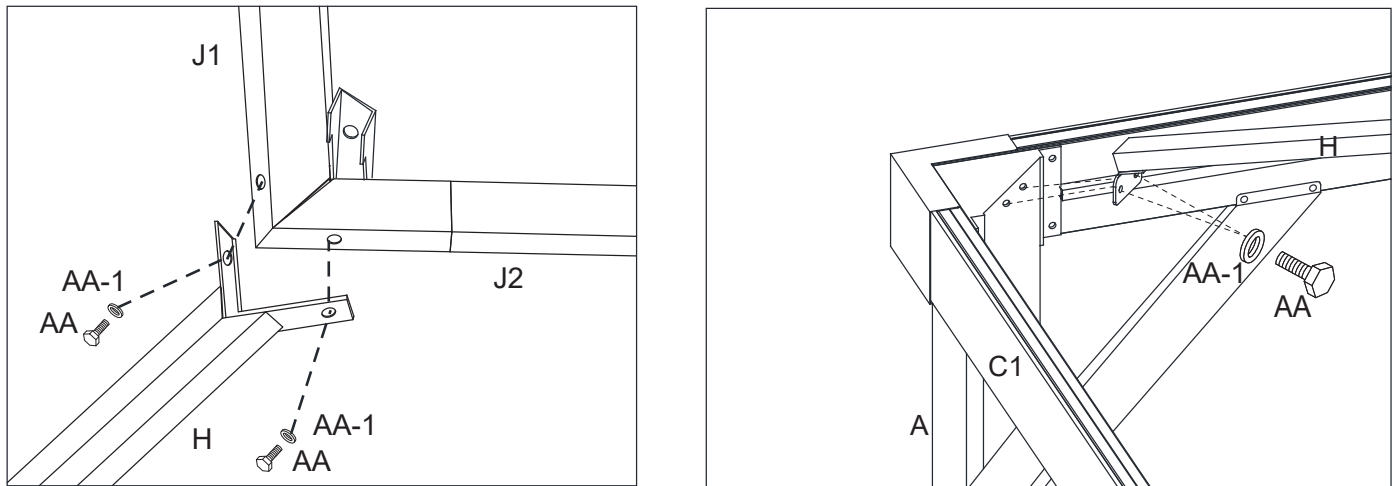

Figure 7-1
7.1 Assemble the Main Roof Corner Supports (H) to the Short Connector (J1) on the Main Roof Center Frame and the Corner Posts (A) using Bolts (AA) and Steel washer (AA-1). See Figure 7-1.